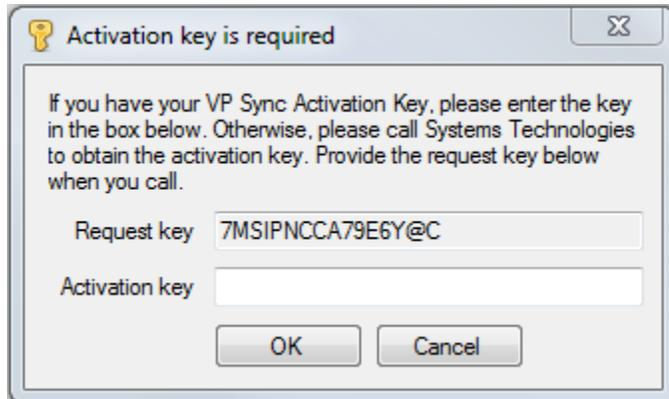

Figure 39
- Click on **Help** then click on **Activate Synchronization** and a "Activation key is required" box appears (Figure 39).